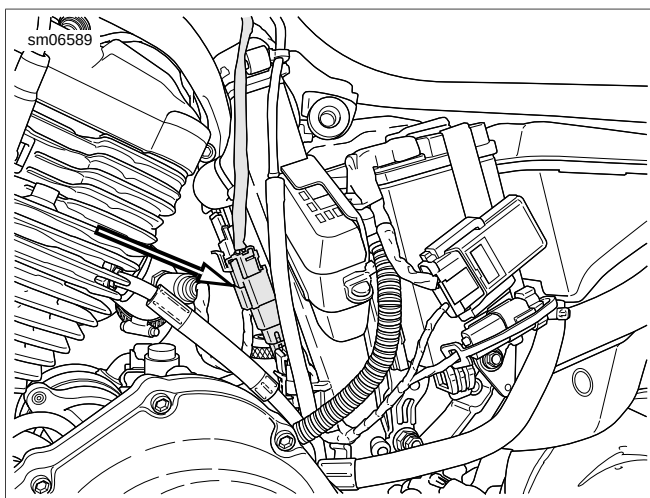

Figure 4-12. Fuel Pump Connector Location
- a. See Figure 4-12. Unplug fuel pump connector [141].